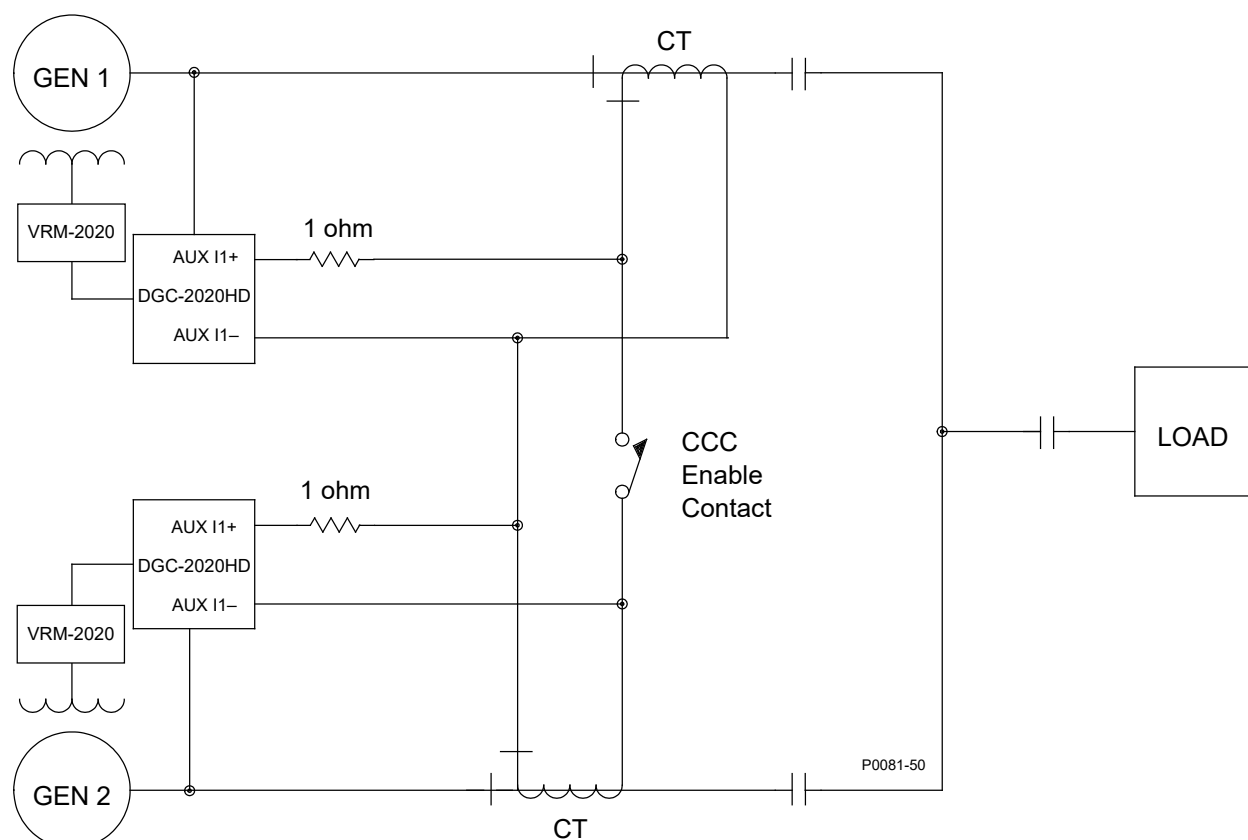

Figure 3-8. Connections for Cross-Current Compensation
Cross-current compensation (reactive differential) mode allows two or more paralleled generators to share a common reactive load. As shown in Figure 3-8, each generator is regulated by a VRM-2020. The DGC-2020HD uses an auxiliary CT input (terminals AUX I1+ and AUX I1-) and a dedicated, external current transformer (CT) to sense generator current. The DGC-2020HD passes the current sensing information to the VRM-2020 via CAN communication. The resistors shown in Figure 3-8 are used to set the burden and may be adjusted to suit the application. Ensure that the power rating of the resistors is adequate for the application. The auxiliary CT input terminals shown in Figure 3-8 are for auxiliary CT input #1, but any of the four auxiliary CT inputs can be configured for cross-current compensation.